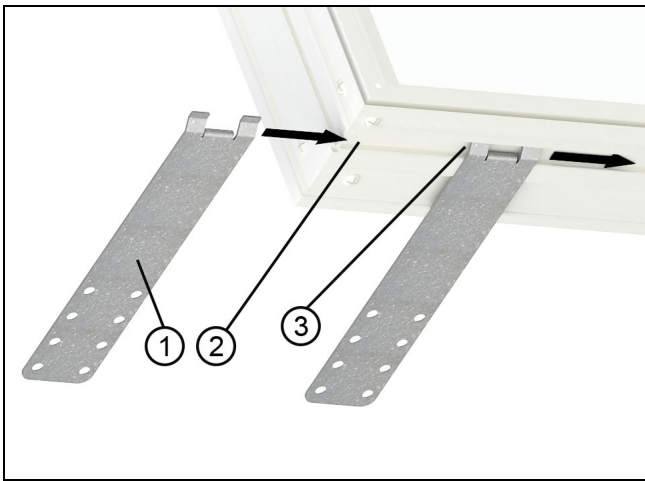

Figure 13
5. Slide flat sill structural brackets into T-slot channel at the sill. Insert enough brackets to ensure a bracket is within 6" of each corner and evenly spaced 12" apart along the sill. Final adjustment of bracket locations should be done once the unit is resting in the opening. See Figure 13.